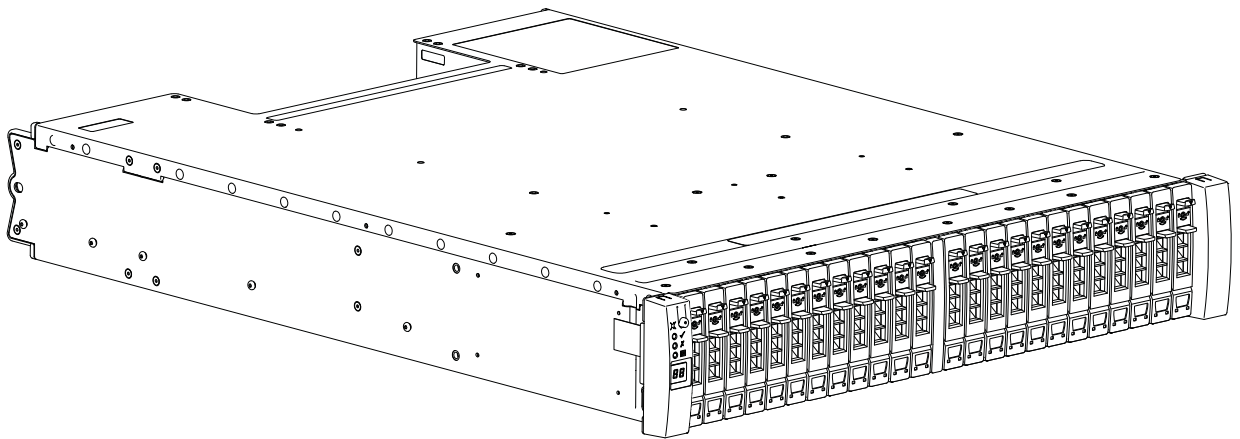
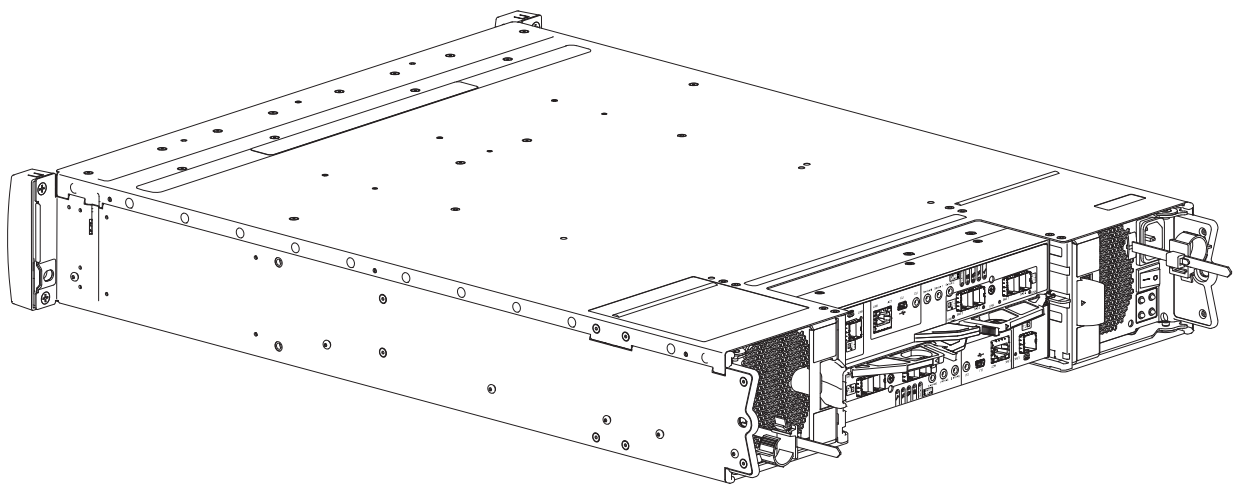

Figure 3 2U24 enclosure system – dimetric front orientation
Figure 4 2U24 enclosure system – dimetric rear orientation
- 2U (rack space) controller enclosure – see Figure 3 \(page 21\) and Figure 4 \(page 21\): holds up to 24 low profile (5/8 inch high) 2.5" form factor disk drive modules in a vertical orientation.